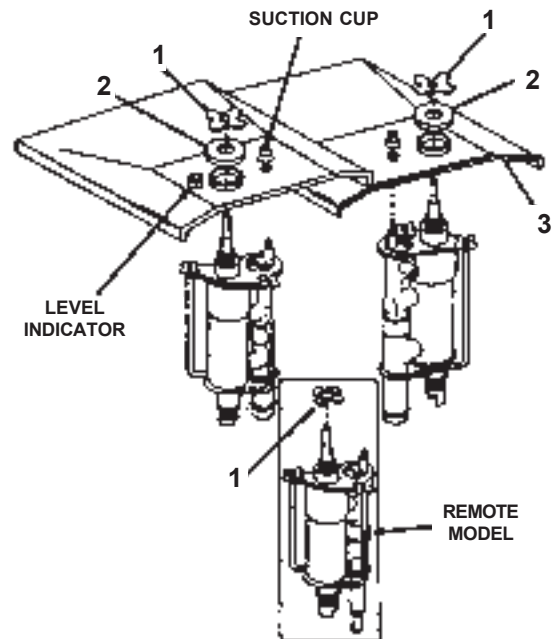

Figure 5. Pump Assembly Removal
- C. Remove large hand nut (1), washers (2) and rear hopper cover (3). (See Fig. 5)
- F. **On hopper models:** position hopper rear cover over assembled pump body. Assemble washer (2) and large hand nut (1) onto top lock plate (3). Do not tighten at this time. Place pump body with hopper cover into hopper. Tilt pump forward and push toward rear of hopper until discharge end of pump body engages hopper outlet hole. Guide hopper rear cover under pump drive bracket at the same time. Install suction cup over pressure tube and connect tubing and tighten hose clamp finger tight. Assemble liquid level indicator by first installing "O"-ring into indicator cover and lubricating lightly. Slide red float into adapter and install indicator cover onto adapter. Place indicator into rear hopper cover. (See Fig. 5)
On hopper and remote models: place pump body under drive bracket. Slip top lock plate threaded shaft into slot in pump drive bracket. Align top hole in piston shaft with holes in drive clevis. Use drive pin to aid in lifting and aligning piston shaft. When top hole in piston shaft is aligned with hole in piston drive, insert drive pin. Secure large hand nut (1) as tight as possible with fingers. Install safety guard over pump drive and secure with two black knobs. Interlock hopper front cover with hopper rear cover. (See Fig. 5)